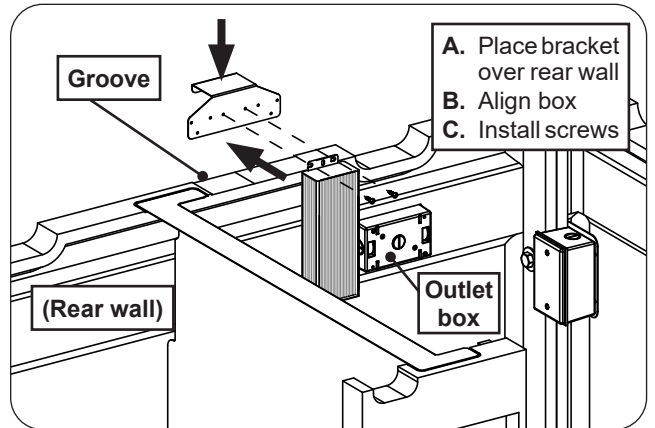

Fig. 12-2 Install power supply box
1. **First** place the power supply box bracket over the rear wall, in the groove just to the left of the outlet box (see Fig. 12-2).
2. Disconnect the power supply harness extension from the grill, then align the pilot holes on the power supply box with the holes on the bracket, then insert the two Phillips screws and tighten with the power drill and #2 Phillips driver (see Fig. 12-2). **DO NOT OVERTIGHTEN.**